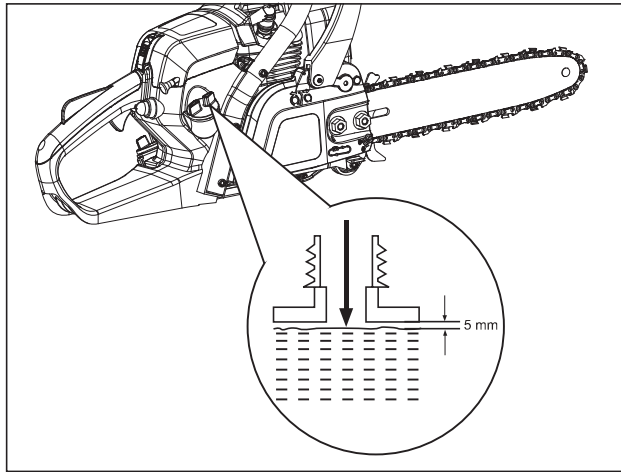

Fig. 5
2. Refill with unleaded fuel (10% Ethanol or less) carefully without overfilling. Leave approx. 0.20in. (5 mm) space between the top of the fuel and the inside edge of the tank to allow for expansion(Fig.5).